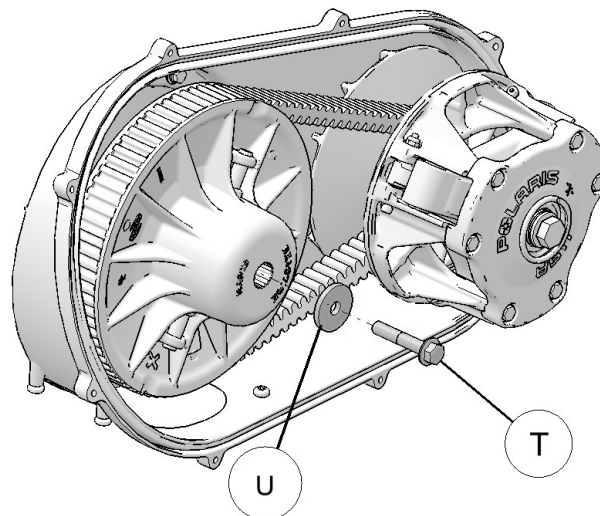

Figure 9
9. Remove the driven clutch retaining bolt (T) and washer (U) from driven clutch. Figure 9.